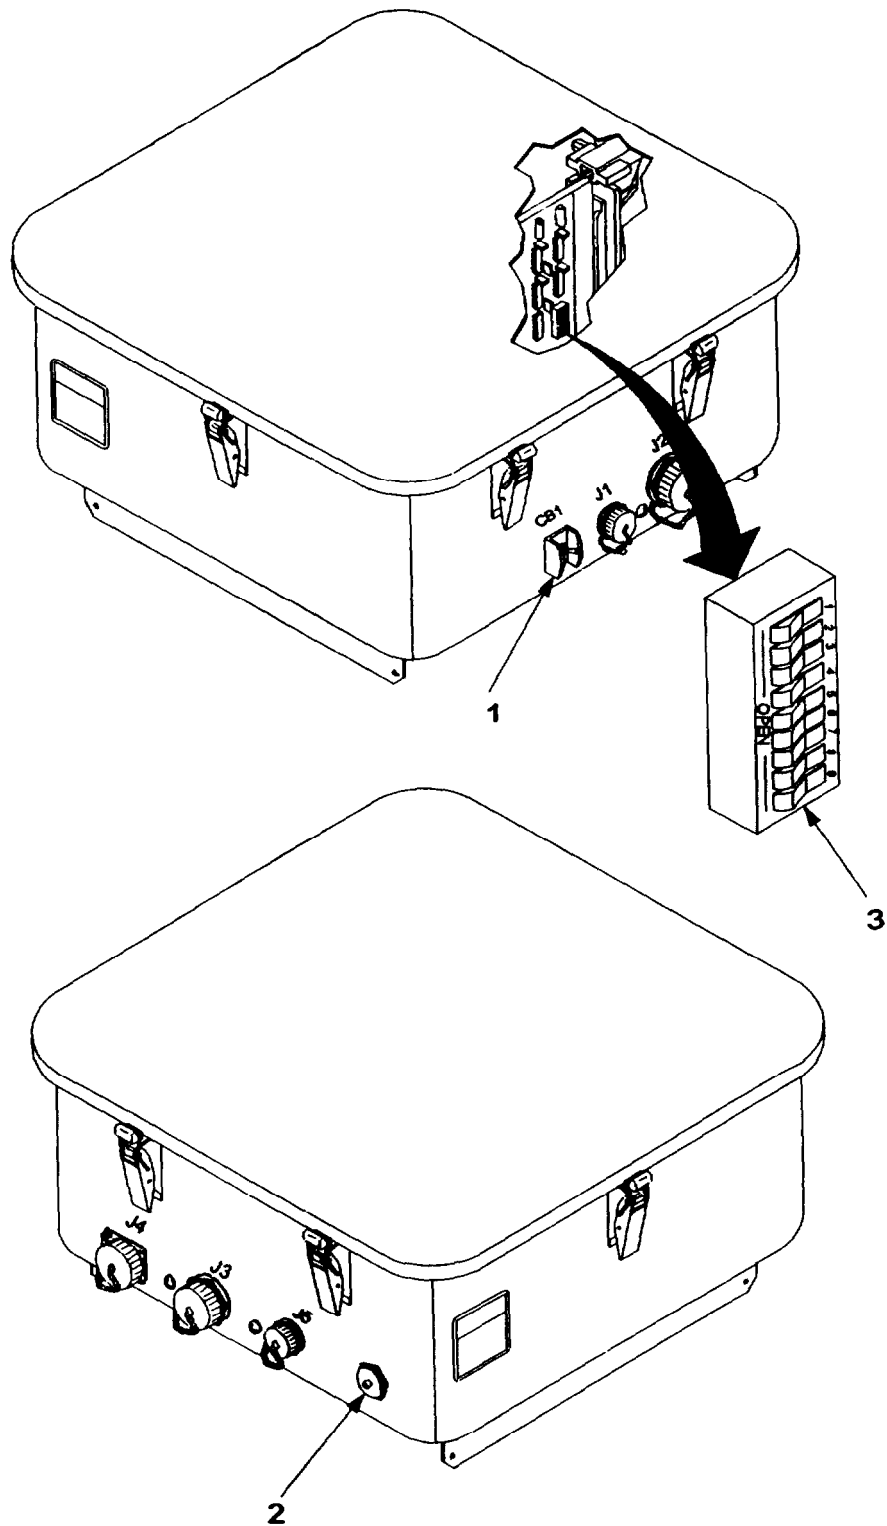
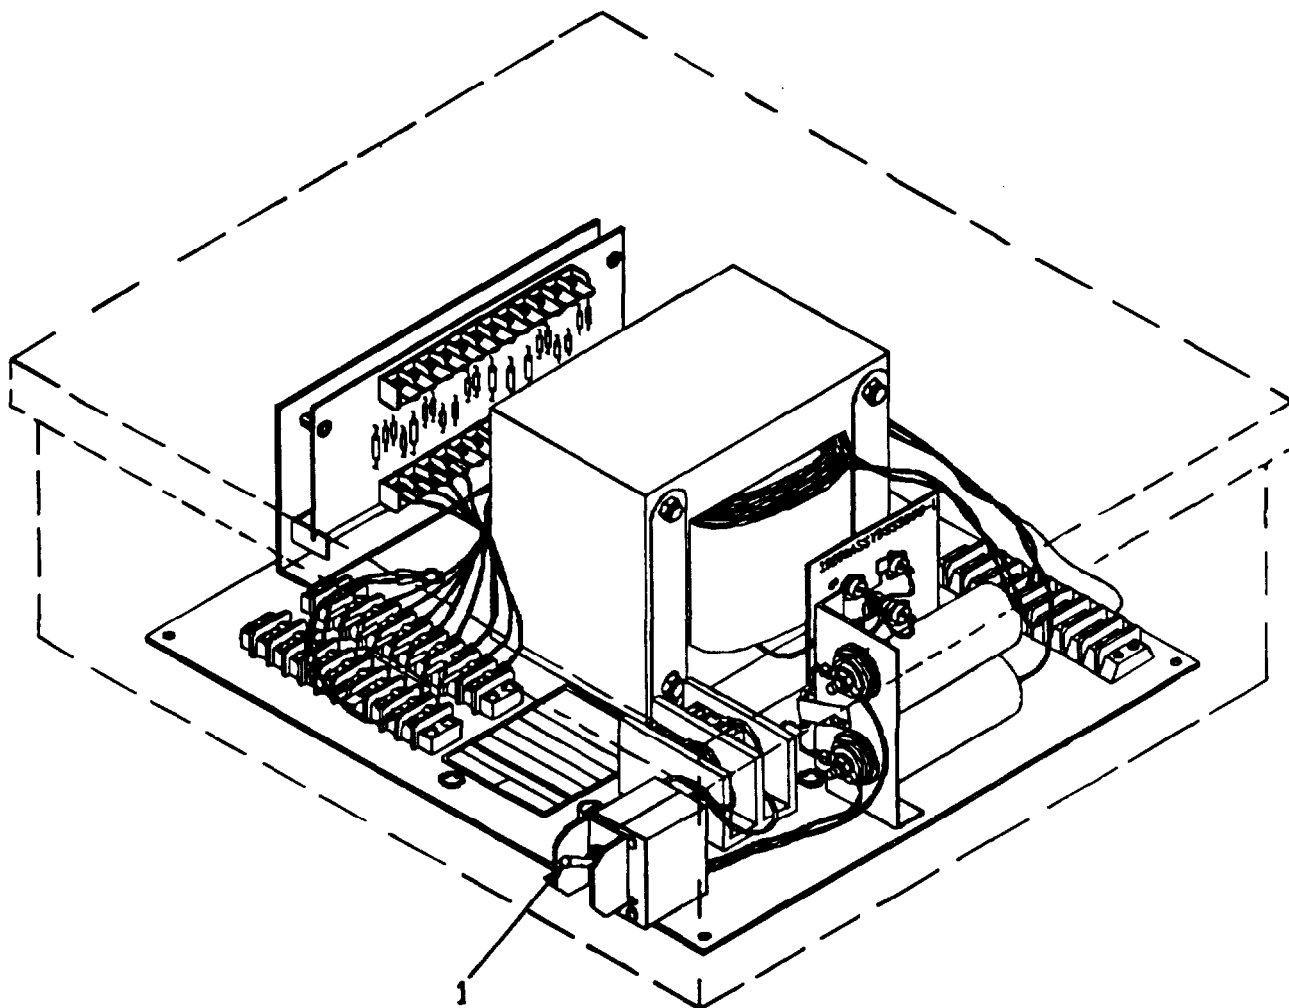
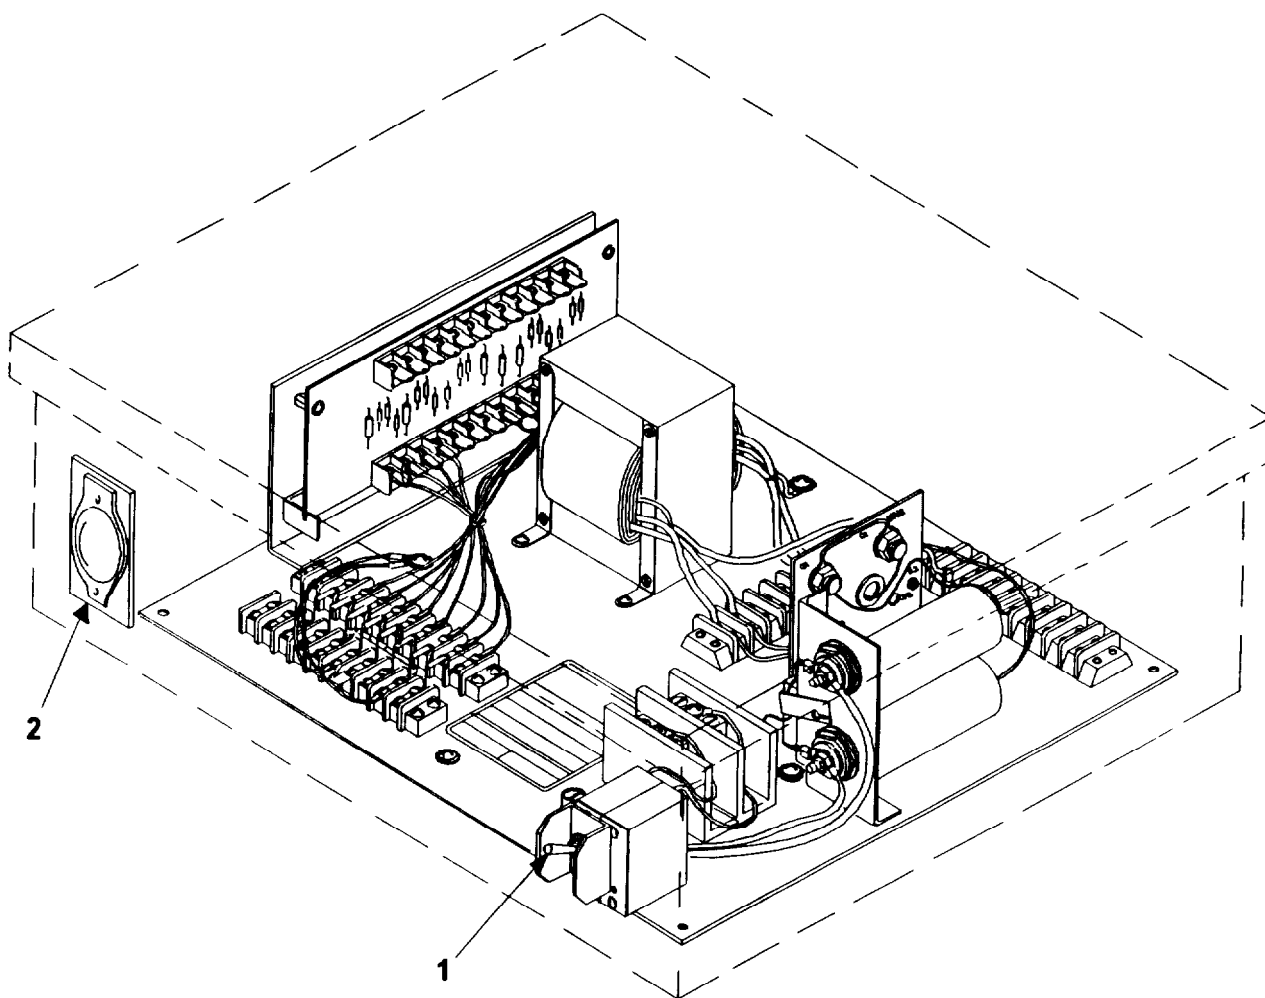

Figure 2-1. TIU Controls and Indicators.
Figure 2-2. ICB/High Power Controls and Indicators.
Figure 2-3. ICB/Low Power Controls and Indicators.
Controls and indicators on the TIU are described in the table 2-1 and illustrated in figure 2-1. The controls and indicators for the ICB/High Power are described in table 2-2 and illustrated in figure 2-2. The controls and indicators for the ICB/Low Power are described in table 2-3 and illustrated in figure 2-3.
b. **Setting the Binary Code on the TIU Address Switch.** Each individual TIU on a ERETS range is assigned a specific number or target address. The address of the individual TIU is determined by the setting on the address switch located on the control logic CCA (reference figure 2-1). The target address assigned to the TIU is based on a binary numbering system. A total of nine switches on the address switch can be positioned in "0" and "1" combinations that represent a binary code. The binary code is a combination of binary numbers that are used to identify target numbers 1 through 511.